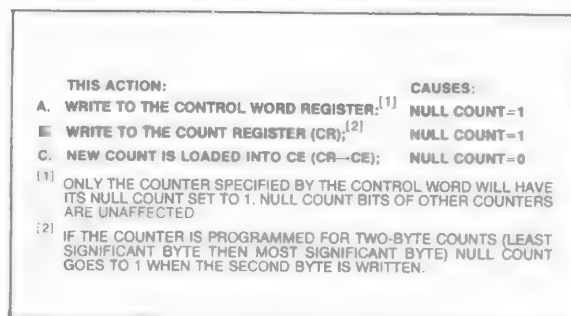

Figure 12. Null Count Operation
NULL COUNT bit D6 indicates when the last count written to the counter register (CR) has been loaded into the counting element (CE). The exact time this happens depends on the Mode of the counter and is described in the Mode Definitions, but until the count is loaded into the counting element (CE), it can't be read from the counter. If the count is latched or read before this time, the count value will not reflect the new count just written. The operation of Null Count is shown in Figure 12.